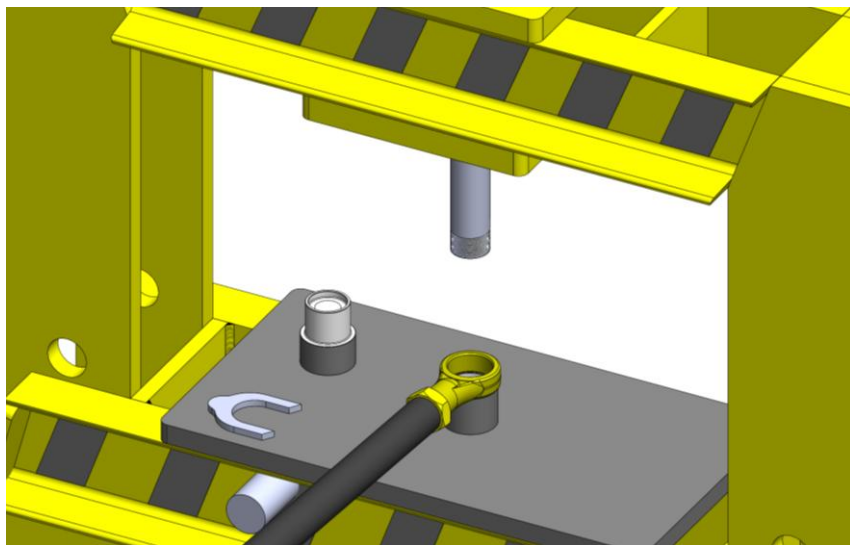

Figure 6: Empty forging placed on sleeve lip
- Retract the press piston and remove the worn-out bushing from the sleeve. Clear the press tool and move it off to the side for now. Then, place the empty forging **flat** on the sleeve lip. (Figure 6).